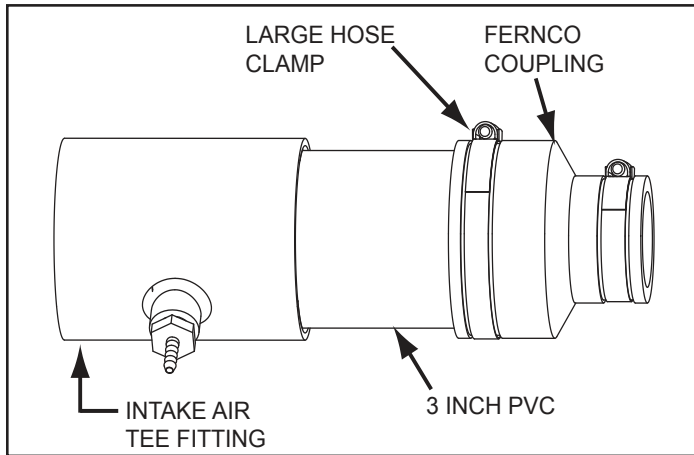

Figure 16. Intake Air Connection Pipe
3. Loosen the large hose clamp on the Fernco coupling that connects the intake air connection pipe to the Combustion blower. See **Figure 16**.